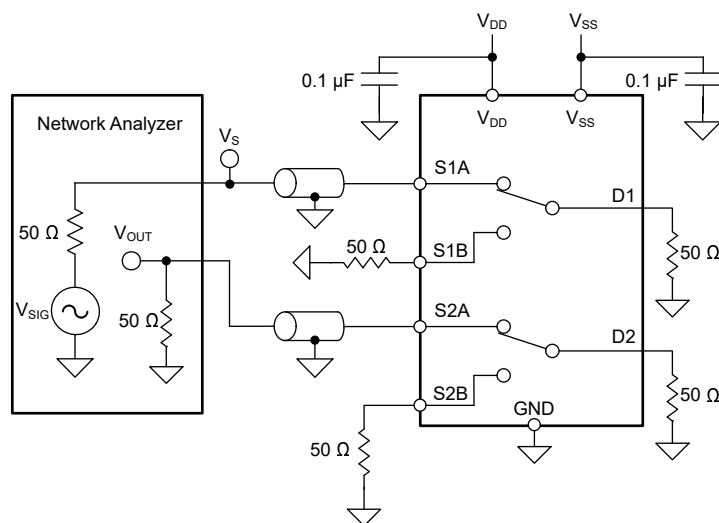

Figure 7-16. Inter-Channel Crosstalk Measurement Setup
2. Inter-channel crosstalk ($X_{\text{TALK(INTER)}}$): the voltage at the source pin (S_x) of an on-switch input in a different channel, when a 1-V_{RMS} signal is applied at the source pin of an on-switch input in a different channel, as shown in Figure 7-16.